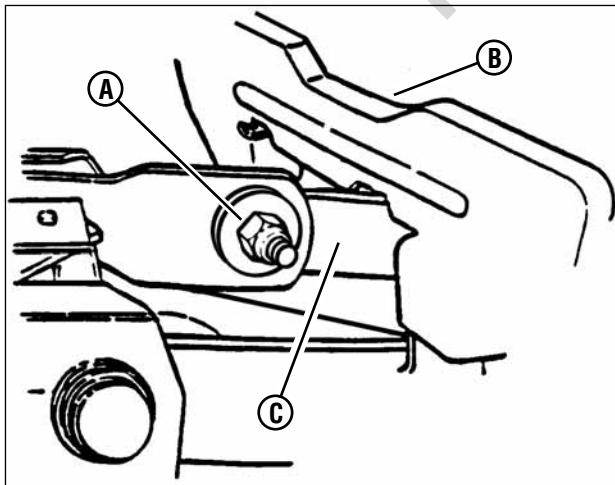

Figure 33: Adjusting deck levelness (side-to-side)
6. Loosen the hardware (**A**, Figure 33) that retains the left side of the blade pedal (**B**).